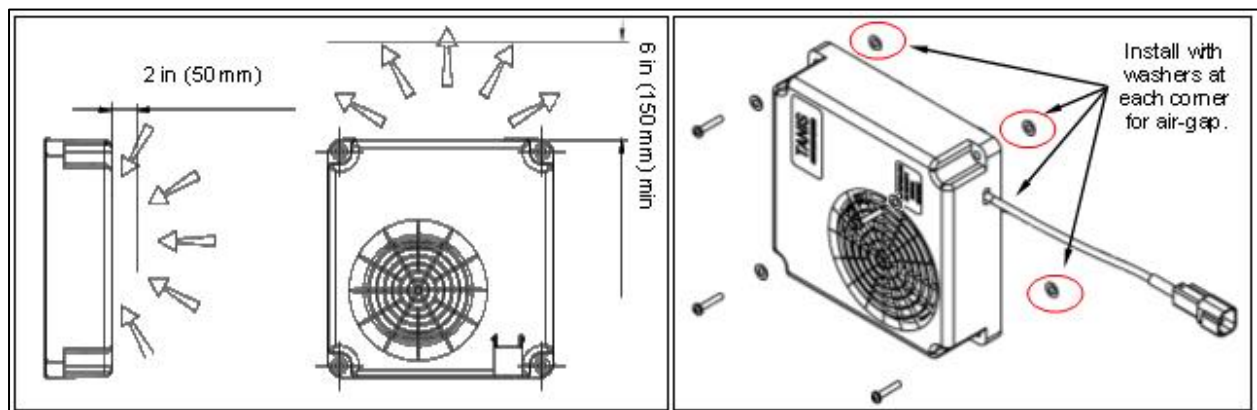

Figure 7.2. Ducting clearances: To avoid warm air standstill and overheating maintain minimum clearances or greater.
- c) Select location that allows adequate ducting clearances and airflow, refer to Figure 7.2.
Figure 7.3. Mounting orientations with ducting flow. To avoid warm air standstill, overheating of heater and/or items near outflow, maintain minimum clearances, 2-inches inlet and 6-inches outflow, or greater refer to Figure 7.2.